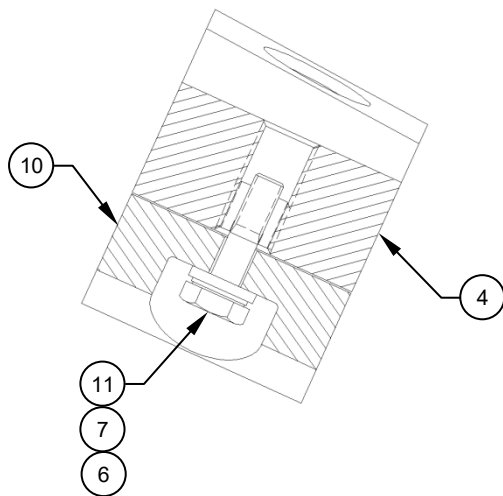

Figure 4
7. Install the remaining fasteners in the Mounting Block, Assys (Items 4 & 5) and add a fillet of Sealant (Item C02) around the edge of each Mounting Block, Assy. Reference Figures 4 & 5.
- Loosely attach the Crosstube, Assy (Item 9) to the Mounting Block, Assys (Items 4 & 5) with the Cap, Details (Item 10) and the supplied hardware. Reference Figures 4 & 5.